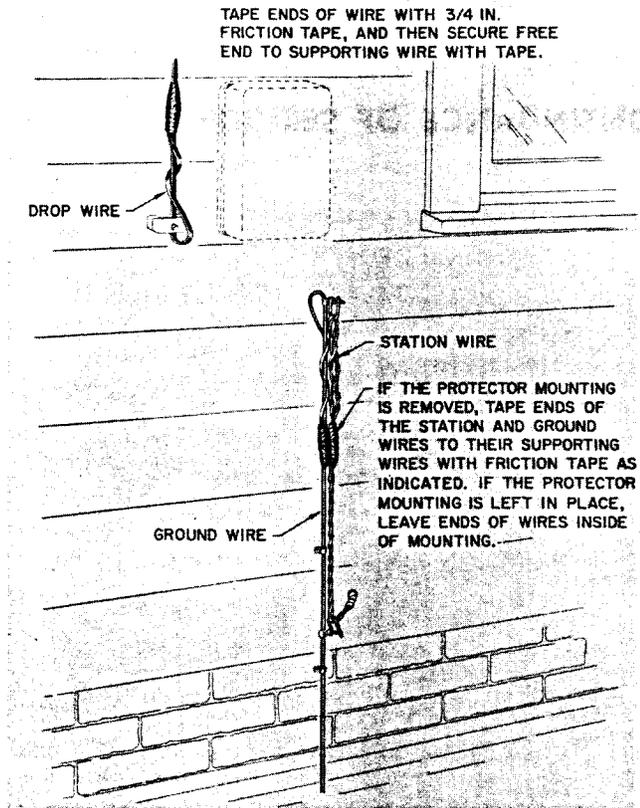

Fig. 2—Terminating Drop and Station Wiring When Protector is Removed
- (1) Disconnect drop, ground, and station wires at the protector.
- (2) Tape and secure wire as shown in (Fig. 2).